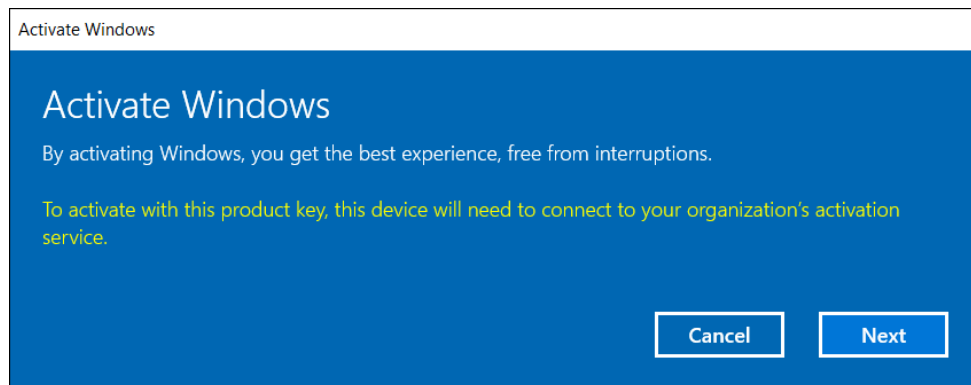

Figure 2-15. Activate Windows dialog
5. Paste the activation string that you previously copied in the Product Key field and click **Next**. After a moment, Windows displays a message similar to the Figure 2-15.